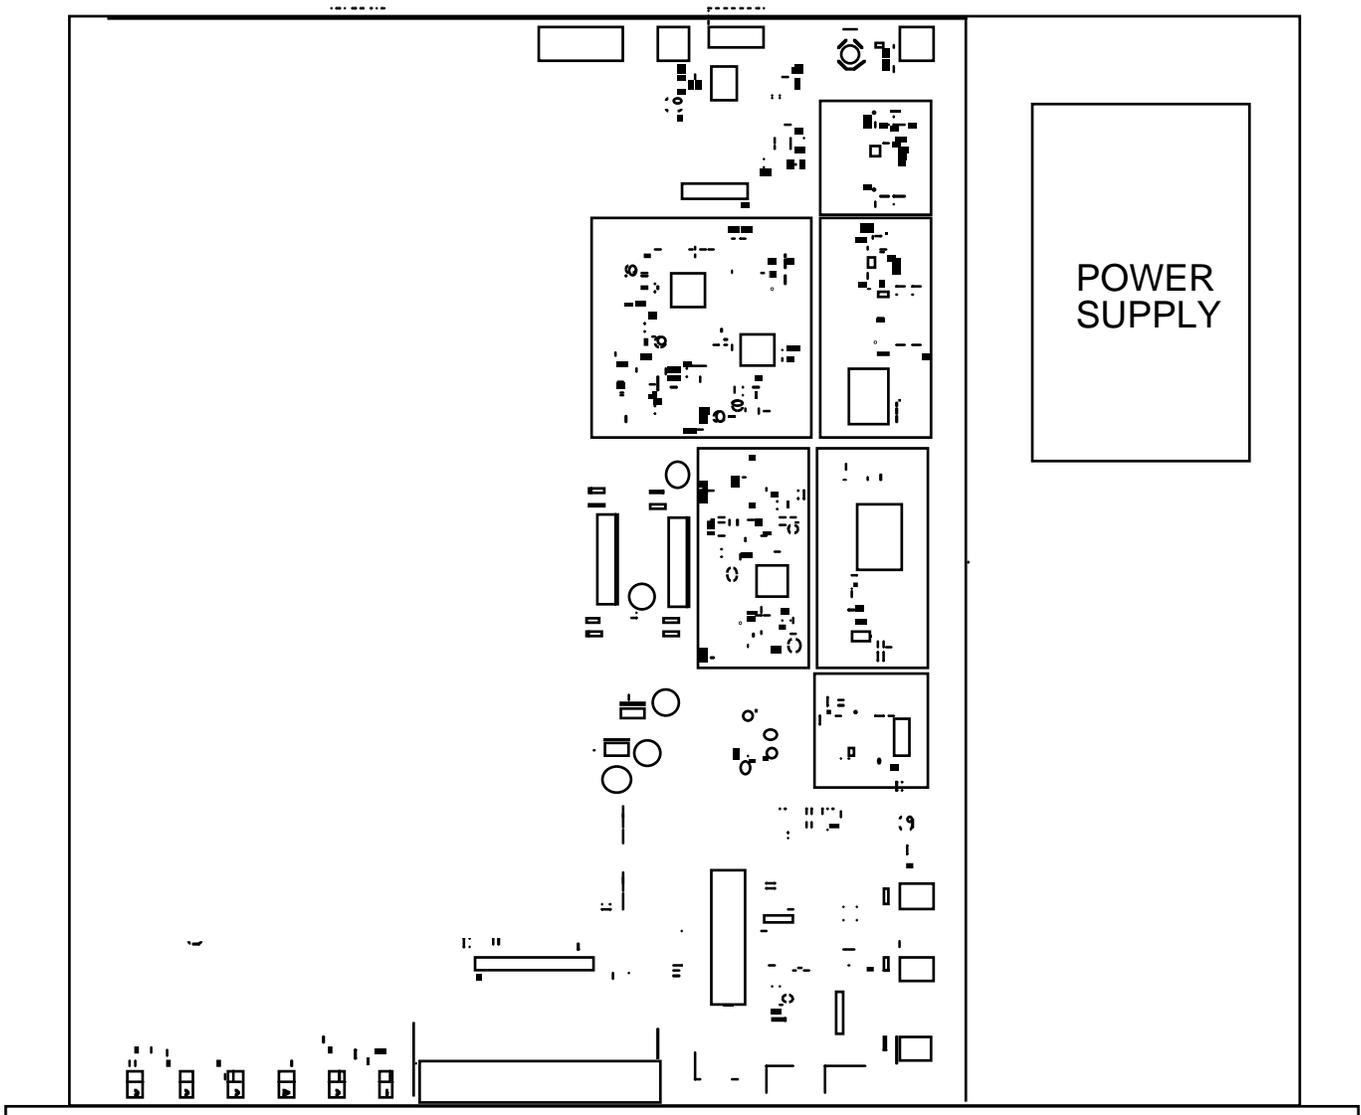

FIGURE 2.1 2016-04A Mechanical Assembly
The 2016-04A consists of one RF/Controller PCB housed in a 1 RU (1 3/4 inch high) by 16 inch deep chassis. A switching, ± 12 , +24, +5 VDC power supply provides power for the assemblies. The 2016-04A can be secured to a rack using the 4 holes on the front panel. Figure 2.1 shows how the 2016-04A is assembled.
7. Option L only - To insert LNB +24 VDC on the RF center pin install 0.5A fast blo fuse in F1 and check that DS8 lights yellow (Figure 2.1).